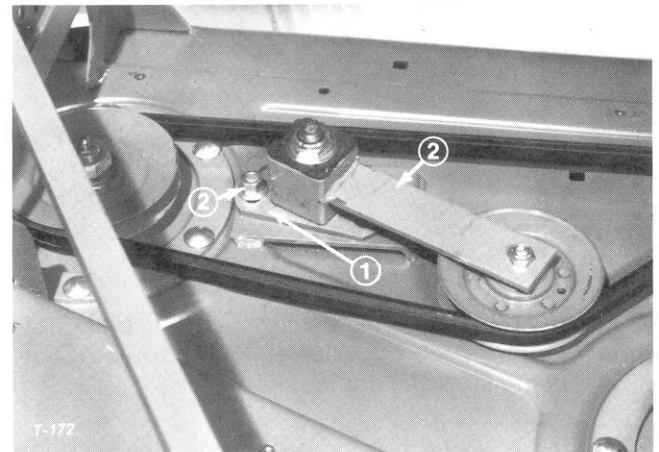

Figure 36
3. Loosen two nuts securing idler plate in place (Fig. 36) and remove old belt from pulleys.
3. Loosen two nuts securing idler plate in place (Fig. 36). Belt tension will be released when nuts are loosened.